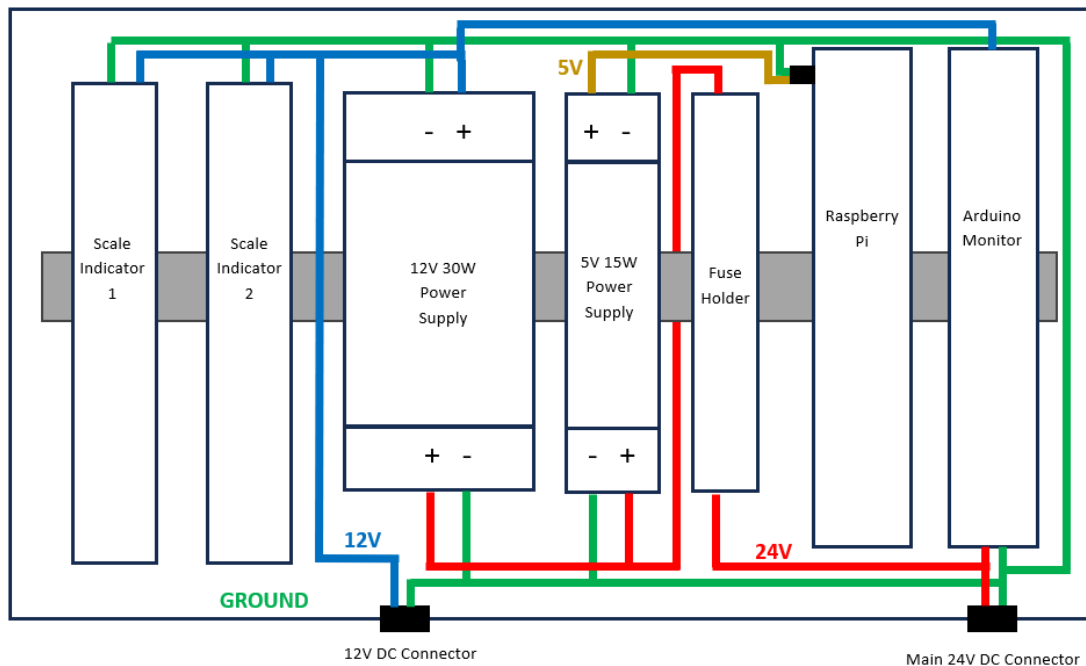

Figure 39 - Location of DIN Mounted Components and Power Wires
- The location of the DIN mounted components, as well as the power wires, can be seen in FIGURE 39 - LOCATION OF DIN MOUNTED COMPONENTS AND POWER WIRES